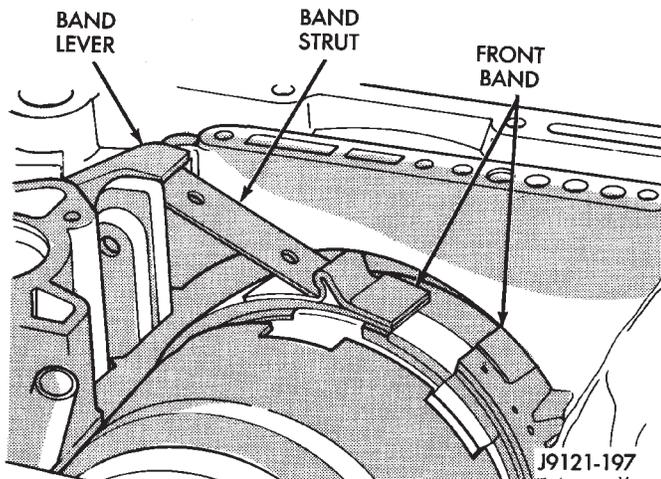

Fig. 146 Front Band Linkage Installation
- (20) Assemble front band strut.
- (21) Install front band adjuster, strut and adjusting screw (Fig. 146).
- (22) Tighten band adjusting screw until band just grips clutch retainer. Verify that front/rear clutches are still seated before continuing.